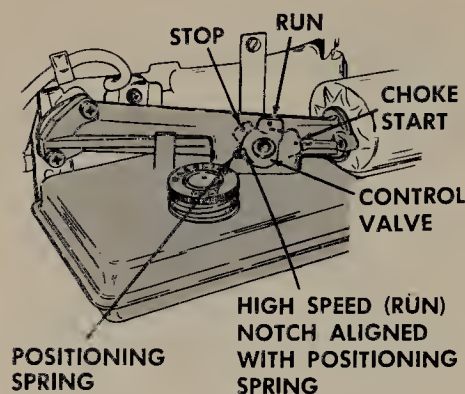
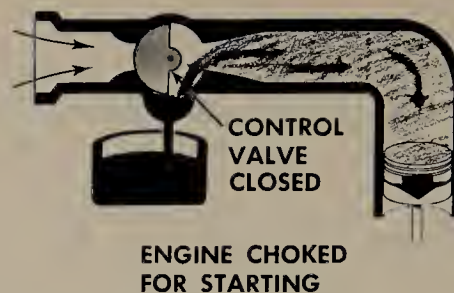

FIGURE 8.19 Exterior view of a suction-feed carburetor with a single control for starting, running, and stopping.
FIGURE 8.20 For starting, the control valve is closed so the engine is choked.
8.14 Suction-feed Carburetor with Single Control. One model of suction-feed carburetor gets along with a single control valve which provides for choking, running, and stopping the engine. A carburetor of this type is shown in Fig. 8.19 with the three positions of the valve indicated. The valve is in the shape of a half cylinder set in a hollow cylinder, as shown in Fig. 8.20. The valve can be rotated into the three positions to provide for engine control. For example, when the control valve is positioned as shown in Fig. 8.20, the air flow through the carburetor is pretty well choked off. Therefore, a high vacuum will develop on the intake stroke as the engine is cranked. This high vacuum will cause a heavy flow of fuel from the tank so the engine receives a rich mixture for starting.